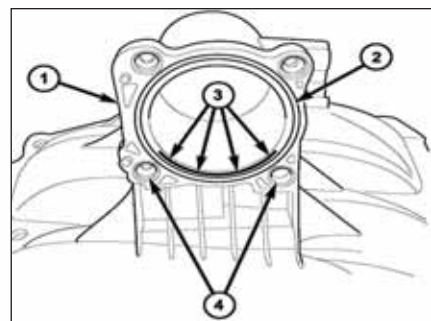

Figure 6 Apply RTV to the lower section of the joint between the lower two throttle body bolt attachment holes.
2) Apply a very small diameter bead (1 mm) of RTV to the intake manifold-to-throttle body joint. The RTV is to be applied to the lower section of the joint between the lower two throttle body bolt attachment holes (**Figure 6**, page